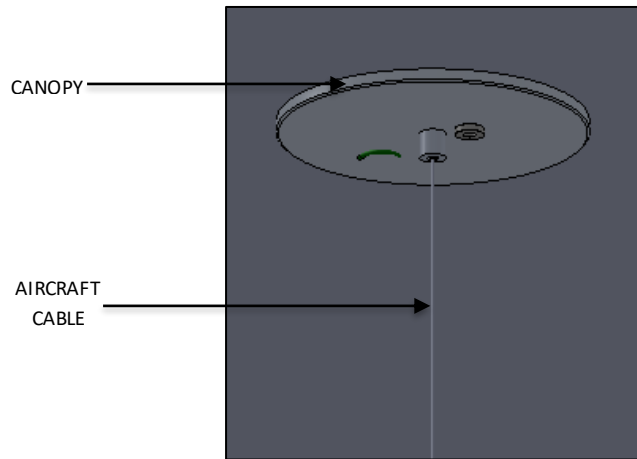
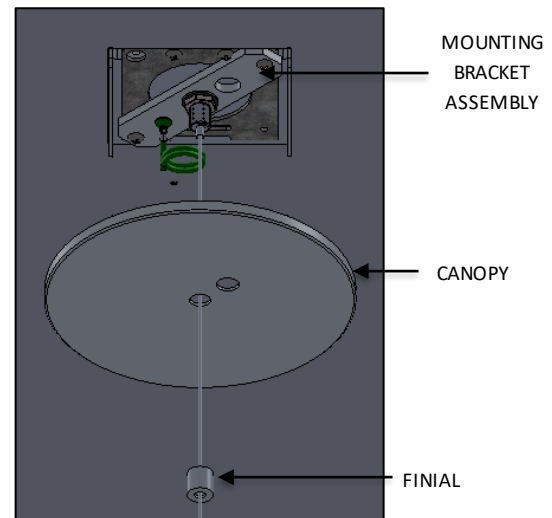

FIG. 28 – AIRCRAFT CABLE ASSEMBLY
FIG. 29 – CANOPY DISASSEMBLY
4. Once the sub assembly is secured to the AIRCRAFT CABLE, as shown in FIG.28. Unthread the FINIAL from the MOUNTING BRACKET ASSEMBLY and lower the CANOPY as shown below in FIG. 29.